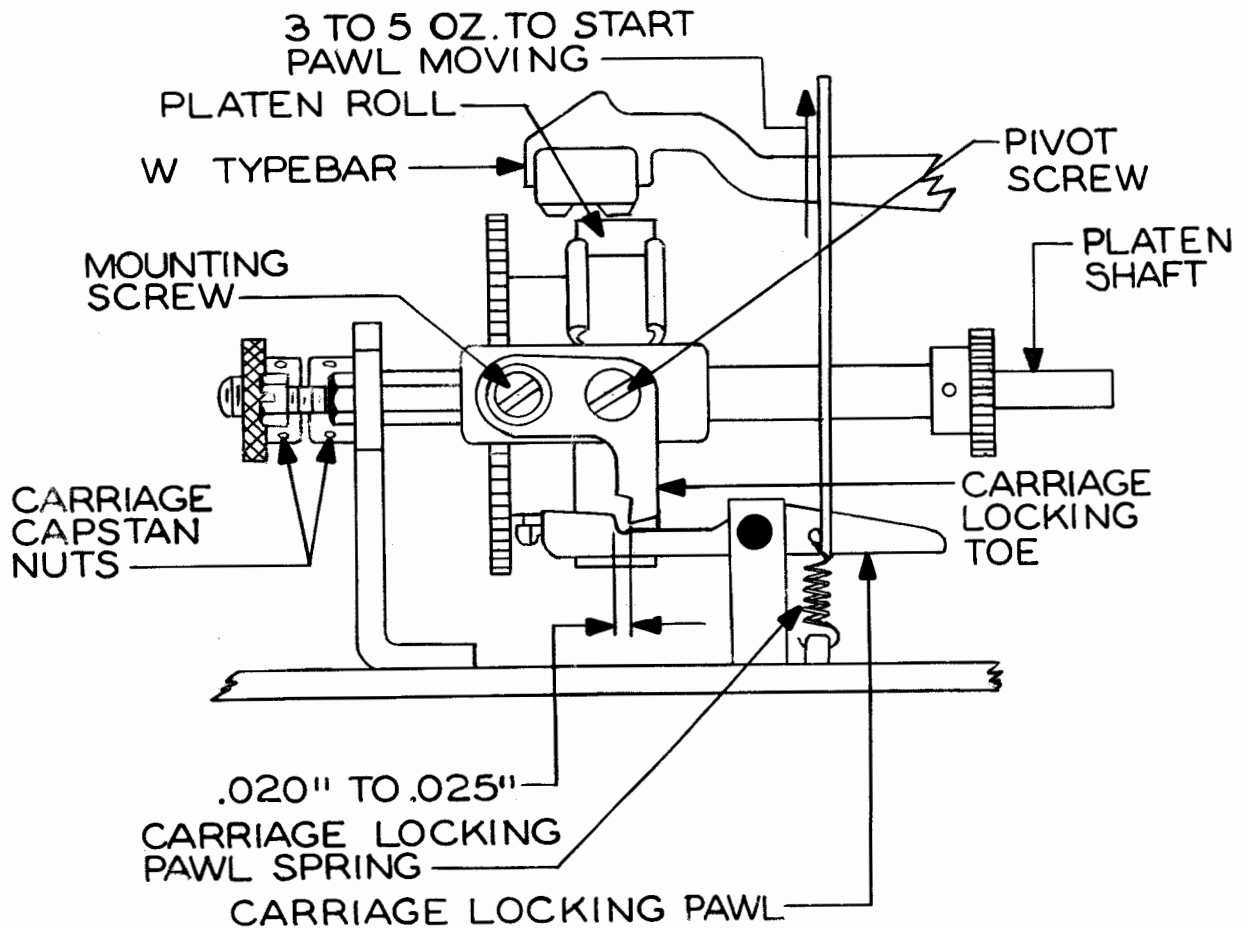

Figure 15
6.03 Carriage Locking-toe: With the platen in the LTRS position, the letter W should print in the middle of the platen-roll. (See Figure 15.)
**6.04 Carriage Capstan Nuts:** The carriage locking-toe should overtravel the edge of the notch in the carriage locking pawl by minimum 0.020 inch, maximum 0.025 inch when the carriage capstan nuts are against the front carriage bearing. (See Figure 15.)
7.03 Carriage Locking-toe: With the carriage in the LTRS position, the letter W should print in the middle of the platen-roll. (See Figure 15.)
minimum 0.020 inch, maximum 0.025 inch when the carriage capstan nuts are against the front carriage bearing. (See Figure 15.)